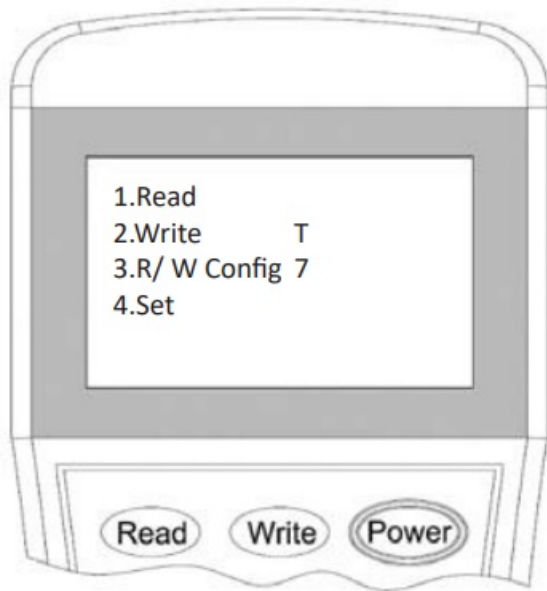

Figure 12
2. Switch-on the programming tool, then press button “3” to enter to Configuration mode (Figure 12).